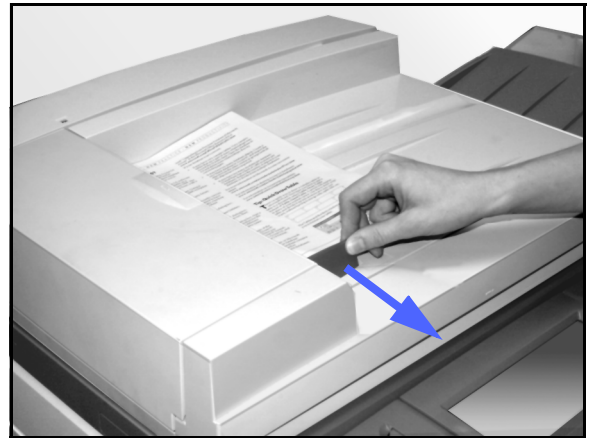

Figure 8: Sliding the Document Guide
- 4** Slide the Document Guide away from the stack of documents, as illustrated in Figure 8. Remove the documents from the Document Feeder Tray.